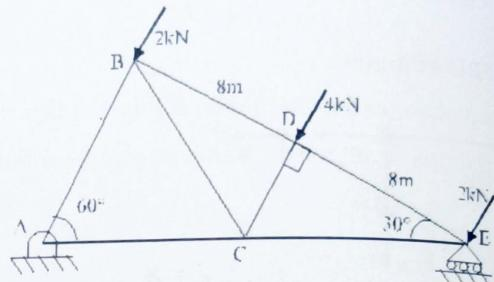

Fig 2.83
- 12) Determine forces in all the members of the plane truss shown in the sketch fig 2.83 by method of joints.